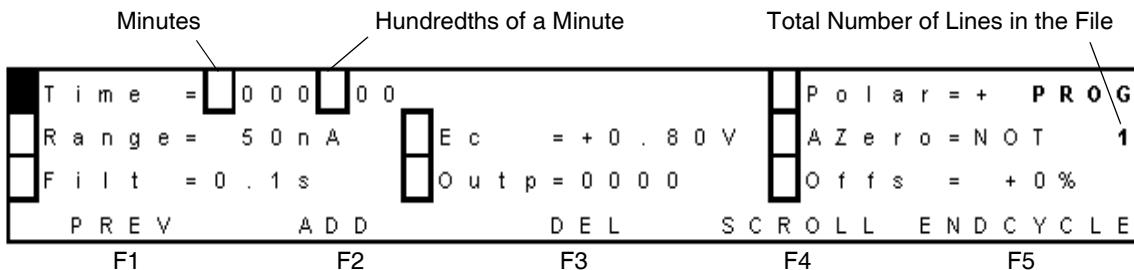

Figure 3-27 Prog Screen with Initial Conditions
- d. Select **F5 NEXT**. The Prog screen appears (Figure 3-27). The number under **PROG** shows that this time file currently has one line. Time = 000.00 establishes the initial conditions.